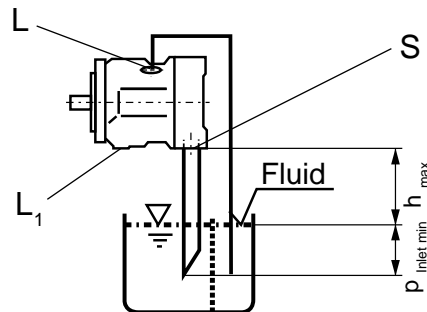

Fig. 4
b) If the minimum fluid level is equal to or below the top of the pump pipe ports "L", "L1" and possibly "S" according to Fig. 4. Conditions according to 1.2.1.
a) For mounting above tank see Fig. 4.